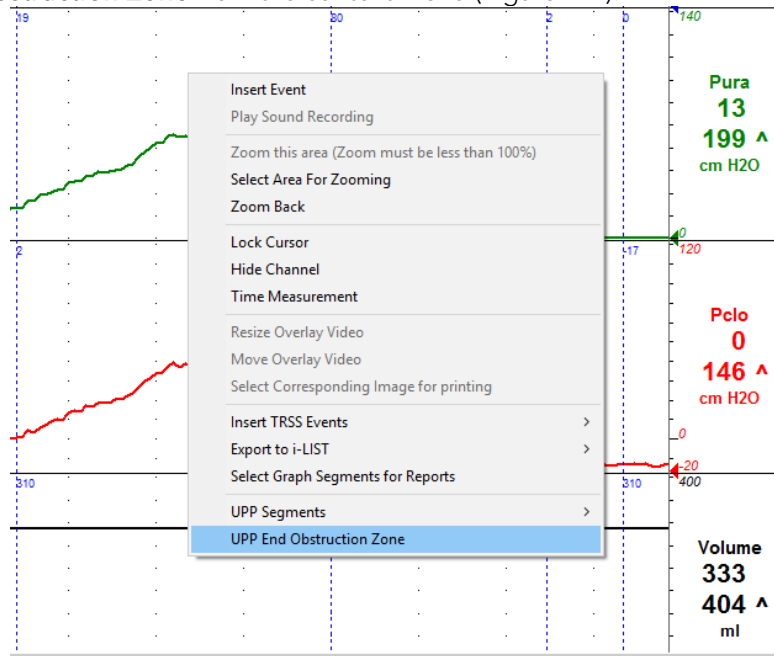

Figure 117: Context Menu – Obstruction Zone
2. Select **UPP End Obstruction Zone** from the context menu (Figure 117).